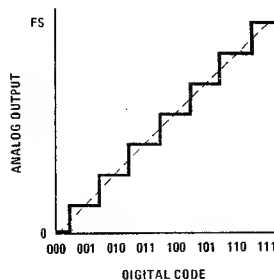

FIGURE 1. Linear DAC Transfer Curve Showing Minimum Resolution Error and Best Possible Accuracy
**Accuracy** is sometimes considered to be a non-specific term when applied to D/A or A/D converters. A linearity spec is generally considered as more descriptive. An accuracy specification describes the worst case deviation of the DAC output voltage from a straight line drawn between zero and full scale; it includes all errors. A 12-bit DAC could not have a conversion accuracy better than  $\pm \frac{1}{2}$  LSB or  $\pm 1$  part in  $2^{12+1}$  ( $\pm 0.0122\%$  of full scale due to finite resolution). This would be the case in figure 1 if there were no errors. Actually,  $\pm 0.0122\%$  FS represents a deviation from 100% accuracy; therefore accuracy should be specified as 99.9878%. However, convention would dictate 0.0122% as being an accuracy spec rather than an inaccuracy (tolerance or error) spec.